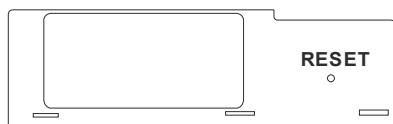

Figure 90
1. Press and hold, using a pointed object, the receiver's reset button until you hear two acoustic signals (see **Figure 90**).